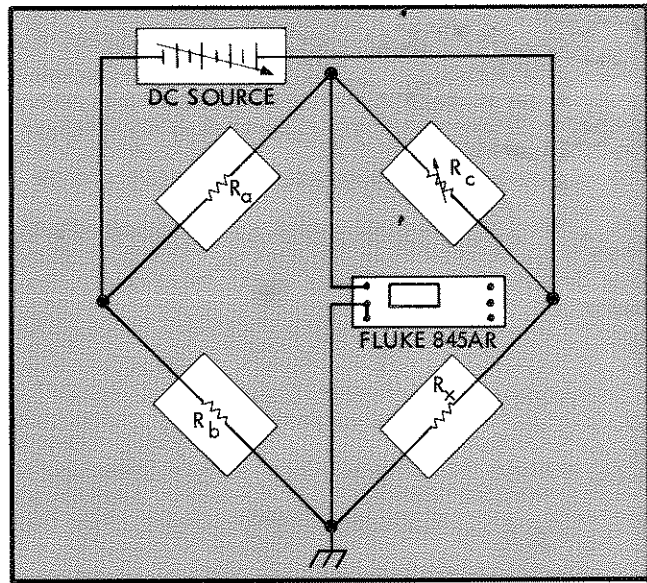

Figure 2-2. BRIDGE DETECTOR - FLOATING SUPPLY
various types of null detector configurations are illustrated by Figure 2-2 through 2-4. To operate the Model 845AR as a Null Detector, perform the preliminary operations according to paragraph 2-5 and proceed as follows:
- a. Select the desired equipment application as illustrated by Figure 2-2 through 2-4 and make the appropriate equipment connections.